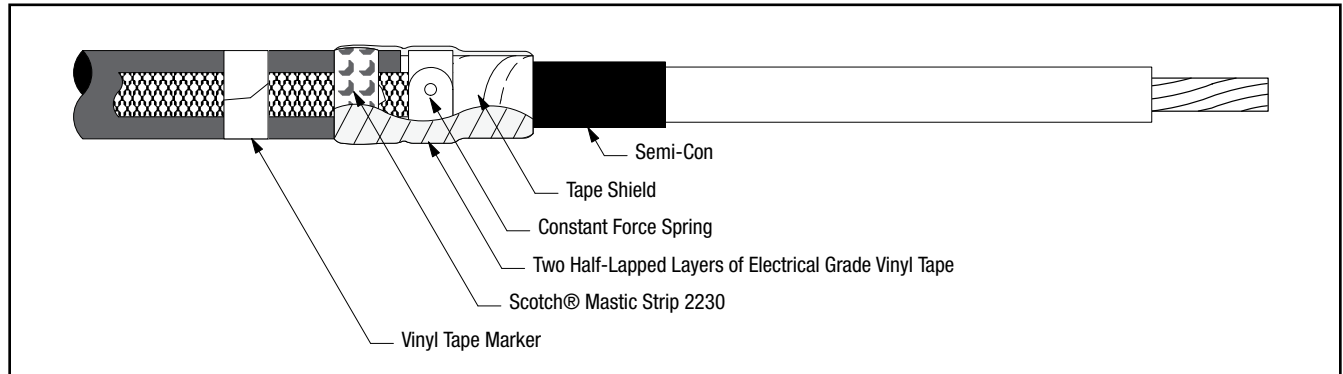

Figure 5
- 3.5 Wrap two highly stretched half-lapped layers of electrical grade vinyl tape around Scotch® Mastic Strip 2230, constant force spring and exposed tape shield (Figure 5).